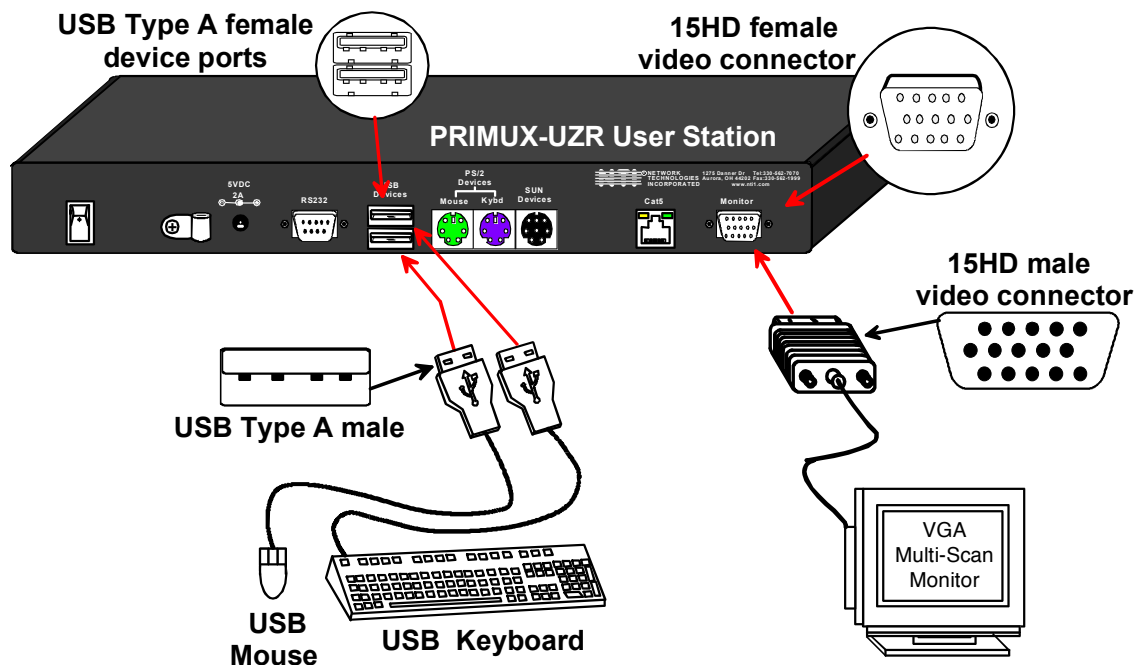

Figure 7- Connect extended USB components to the User Station
3. Connect the USB device(s) to the User Station (see Figure 7).